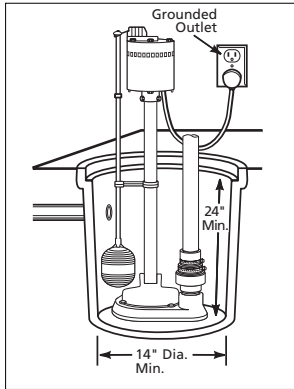

Figure 2
3. Install pump in a sump pit with minimum size as shown (See Figure 2). Construct sump pit of tile, concrete, steel or plastic.
4. Locate unit on a solid, level foundation. Do not place pump directly on clay, earth, gravel or sandy surface. These surfaces contain small stones, gravel, sand, etc. that may clog or damage the pump and cause pump failure (See Figure 2).